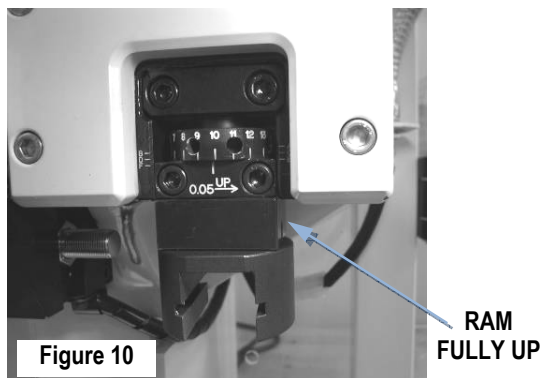

Figure 10
1. Put the hand-cycle wrench in the back of the press motor. Turn the wrench until the press ram is fully up. See Figure 10.